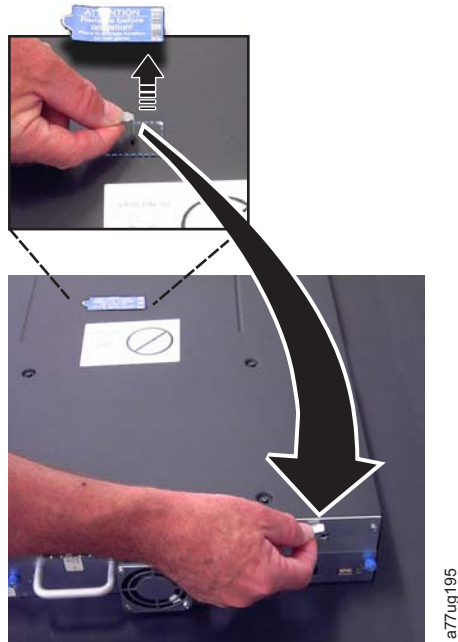

Figure 10-17. Removing the shipping label and lock from the top of the library and storing on the rear panel
4. Remove the shipping lock from the top of the replacement library enclosure (see Figure 10-17 on page 10-18).